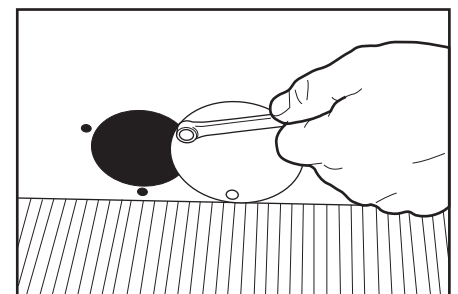

Fig. 2
2. Remove two bolts from round access plate above second step in stepwell and rotate plate as to expose access hole (Fig.2).